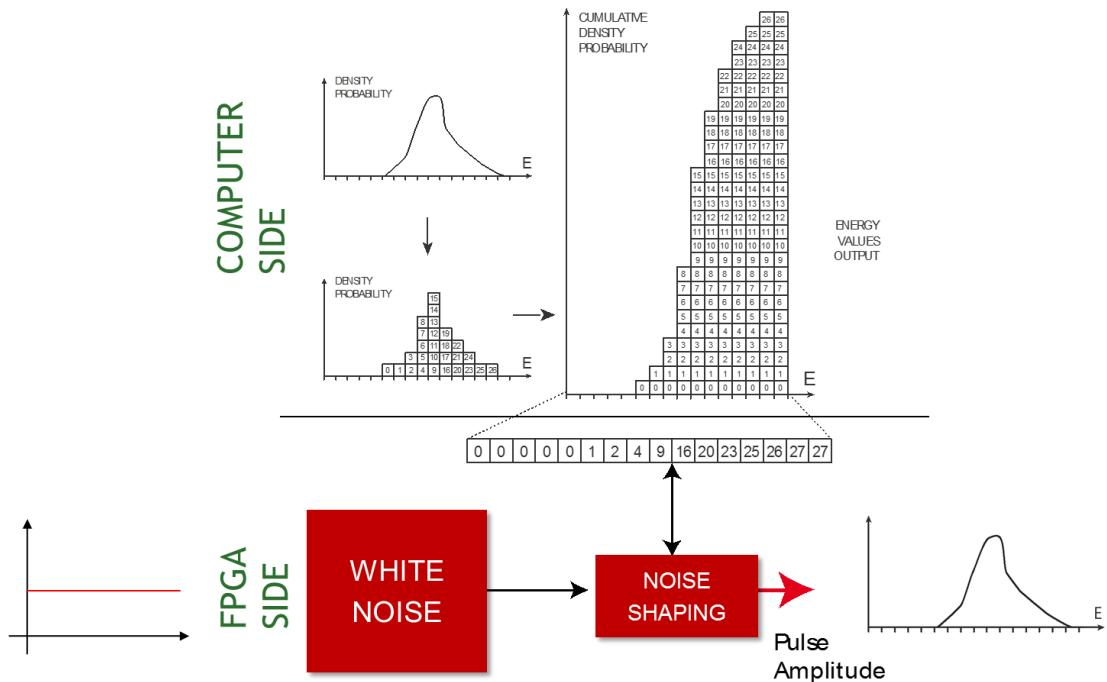

Fig. 6.2 Emulation of a spectrum.
With reference to **Fig. 6.2**, each square of each column is sequentially numbered. Consider the simplified case in which the total number of squares under the curve is a power of 2, e.g. $2^5=32$. Using 5 bit in the random number generator, all the 32 numbers can be obtained with the same probability, i.e. the random numbers map completely the area under the spectrum curve. Every time a random number is generated, the algorithm searches the number in the spectrum area and, when finds it, delivers the bin number n thus indicating the corresponding energy value E_n . If we consider again a generic x bin two times higher than a y bin, it is easy to see that, since the random numbers with equal probability map all the squares, there is twice the probability that the random number picks up a square in x rather than in y column, which means that generated pulses with E_x energy are twice those with E_y energy.
In this way, only one memory cell per bin is required. Using the cumulative spectrum, it is still possible to identify the bin that contains the generated random number by means of an extension of the described algorithm. For instance (see **Fig. 6.2**), if the random number is 18, it is easy to see that it belongs to the memory cell number 10: in fact, the cell number 10 contains a number that is higher than 18 (20), while the previous cell contains a number that is lower (16); this means that bin number 10 contains the squares that go from 16 to 19, exactly the range in which 18 belongs. So the output energy value correspondent to the random number 18 is 10.